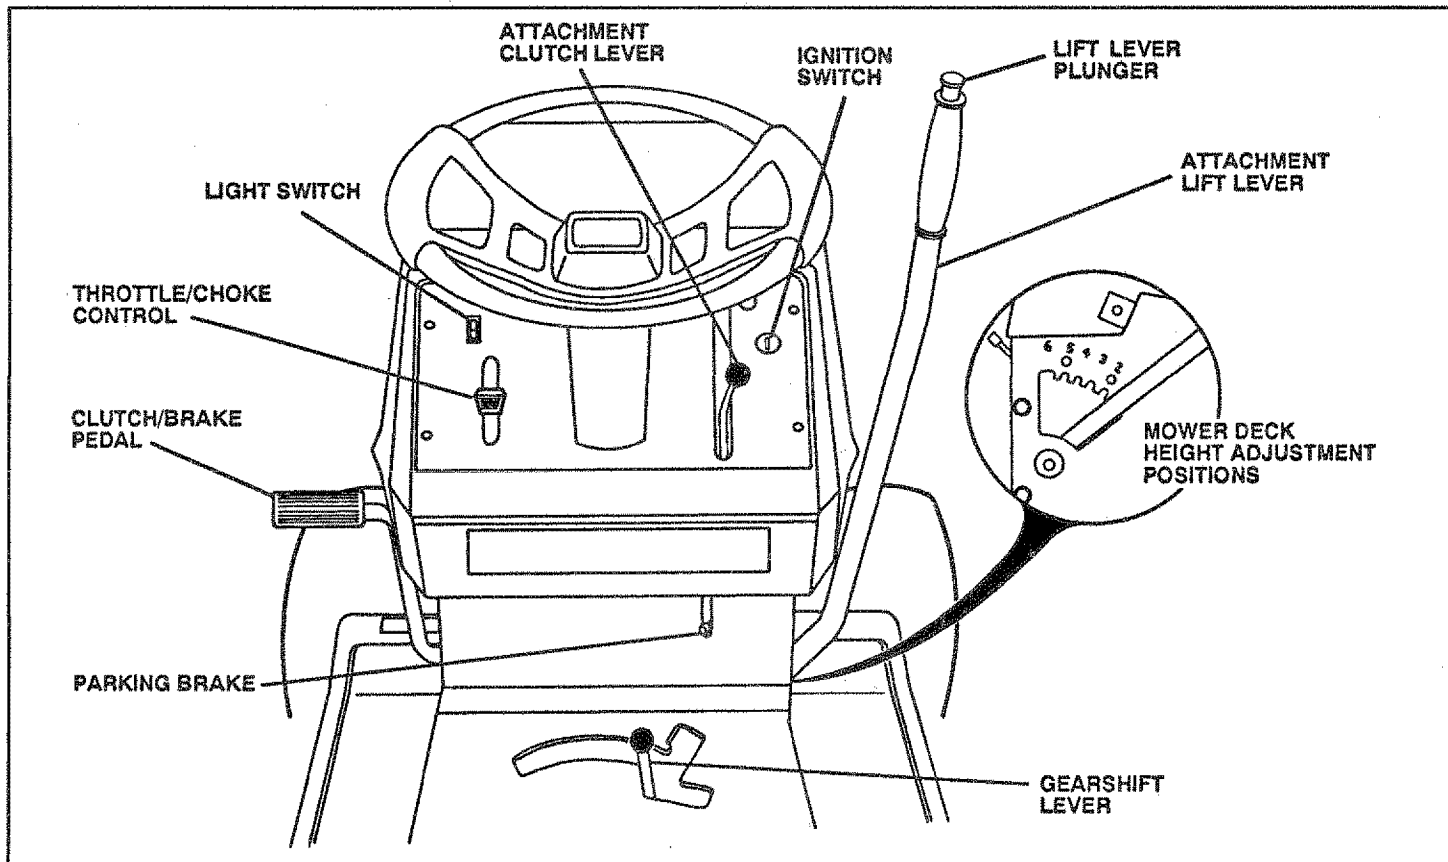

FIG. 6
### (See Fig. 6)
- Slide seat until a comfortable position is reached which allows you to press clutch/brake pedal all the way down (See Fig. 6).
## TO MOVE FORWARD AND BACKWARD (See Fig. 6)
## TO ADJUST MOWER CUTTING HEIGHT (See Fig. 6)